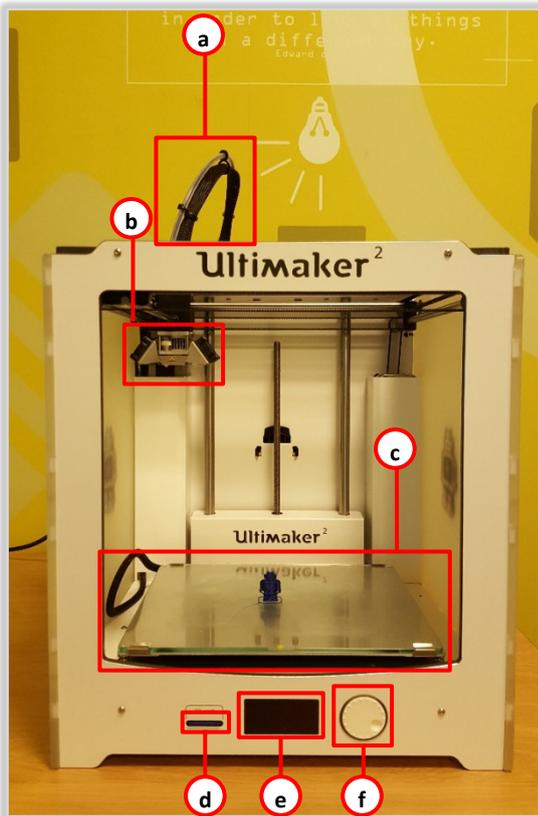

Figure 5: Front of Ultimaker 2
**Note:** You can load multiple objects as long as they fit on the the checkered area. The checkered area represents the glass build plate on the Ultimaker 2 (*Figure 5, label c*).